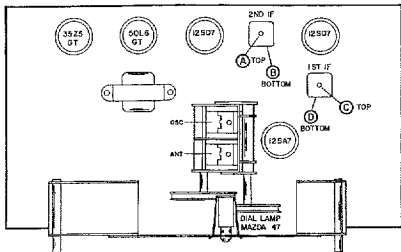

Fig. 3. Top View of Chassis Showing Location of Alignment Adjustments, Tubes and Dial Lamp
TUBE AND DIAL LAMP REPLACEMENT - Refer to Fig. 3 for the location of the tubes and dial lamp used in the receiver. To gain access to the tubes and lamp, remove the back cover from the cabinet. Before attempting to make any replacement, set the BAND SPREAD control fully clockwise and the TUNING control fully counterclockwise to prevent damage to the tuning gang. To replace a tube, insert the center guide pin into the center hole of the tube socket, rotate the tube until the key drops into position and then push down until the tube is held firmly in the socket. To make a dial lamp replacement, remove the dial lamp socket by compressing the side springs. Make replacement only with a type 47 pilot lamp.
- See Figs. 3 and 4 for location of alignment adjustments.